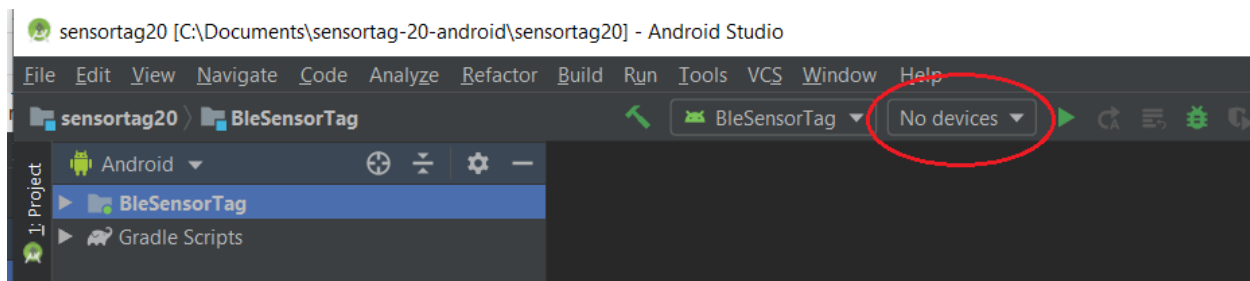

Figure 52, Device Toolbar.
- iii. When no devices are present the device toolbar should read "No Devices" (Figure 52)